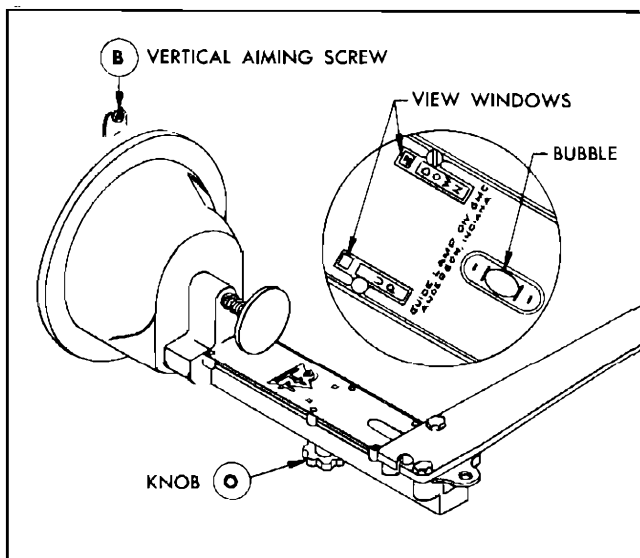

Fig. 11-123 Calibrating for Unlevel Surface
1. Loosen knob "O" on aimer (Fig. 11-123) and move slider until bubble is centered.